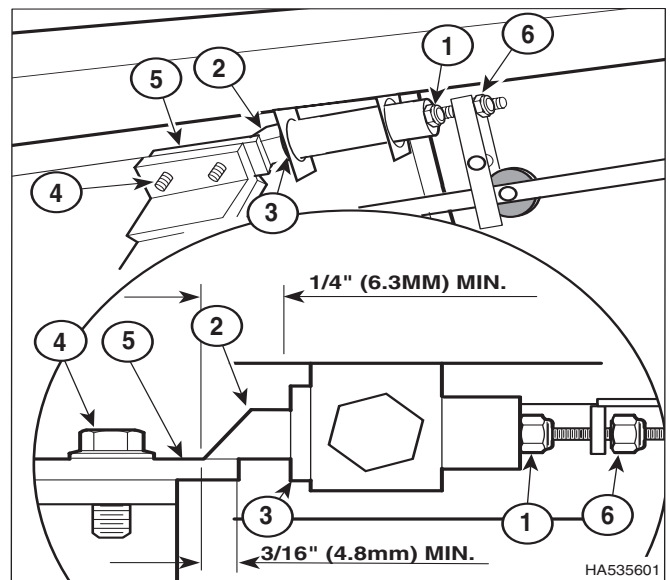

Figure 4-34. Trendelenburg Level Lock Adjustment
- (1) Lower bellows or top column cover for access (Refer to para 4.3 or 4.3.1).
- (2) Tighten or loosen nut (1, Figure 4-34) until end of lockout bolt (2) is 1/4 in. (6.3 mm) from sleeve (3).
- (3) Loosen two screws (4); then slide lockout strike (5) in or out until it has a minimum engagement of 3/16 in. (4.8 mm) with lockout bolt (2).